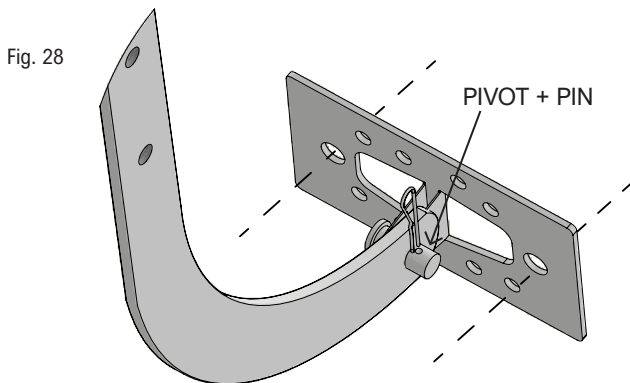

Fig. 28
- 2) Fasten the other end of the tow bracket to the door bracket and unlock the clutch of the trolley pulling the handle down (fig. 28).